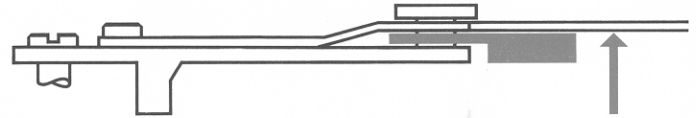

Fig. 10
- 3.1.5. With the reverser in the working position, fit the operating-lever (fig. 10) and screw it tight.